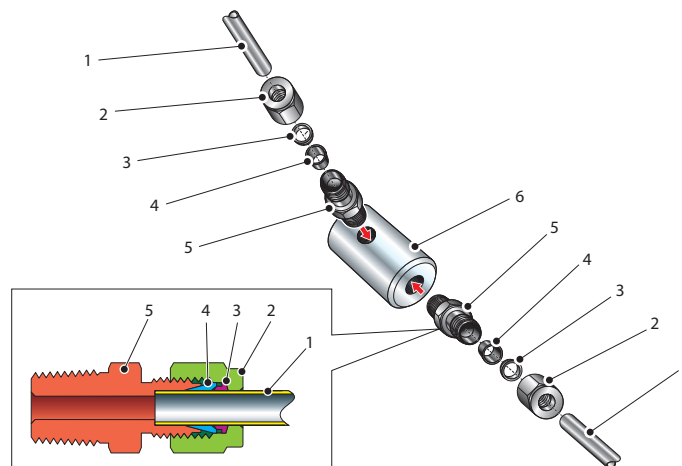

Figure 16 *Sample Block Gas Connections*
Sample gas connections are made to the Gas In and Gas Out ports on the sample block (see *Figure 16*). Either port on the sample block may be used as the Gas Input port (i.e. for connection purposes the ports are interchangeable).
Both the Input and Output gas connections are $\frac{1}{8}$ " NPT. It is recommended that both the Gas Input and Output connections are made via $\frac{1}{8}$ " NPT to 6mm or $\frac{1}{8}$ " NPT to $\frac{1}{4}$ " stainless steel tube adaptors (2...5 – *Figure 16*). The method of connection to the sensor block (6) is as follows: